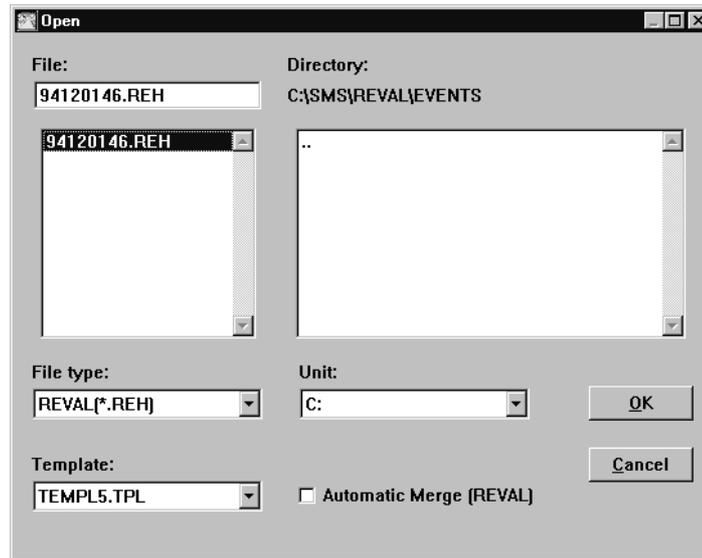

Fig. 5 The open dialogue box.
- 4 Select File/Open. The open dialogue box, see Fig. 5, is presented to select which disturbance to open. You can also change directory and file type in the shown list boxes.